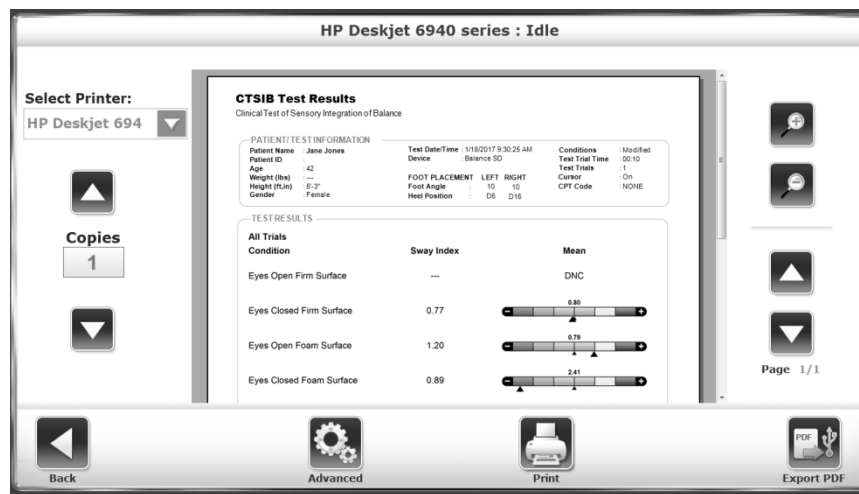

Figure 7.5. Print Preview of Test Results.
1. Touch <Print Results> to display a preview (see Figure 7.5).